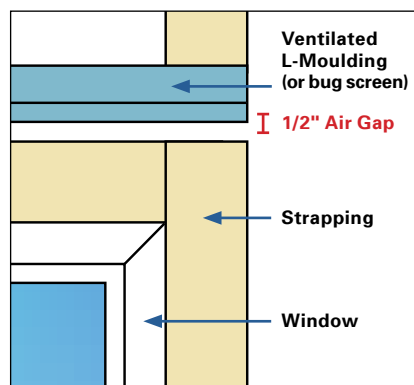

Fig. 4
- Leave a 1/2" air gap above and below all windows and doors that are greater than 4' wide. Use Fraser Wood Siding Ventilated L-Moulding (or bug screen) to allow for ventilation and prevent insects from nesting behind the siding. *(See Figure 4)*